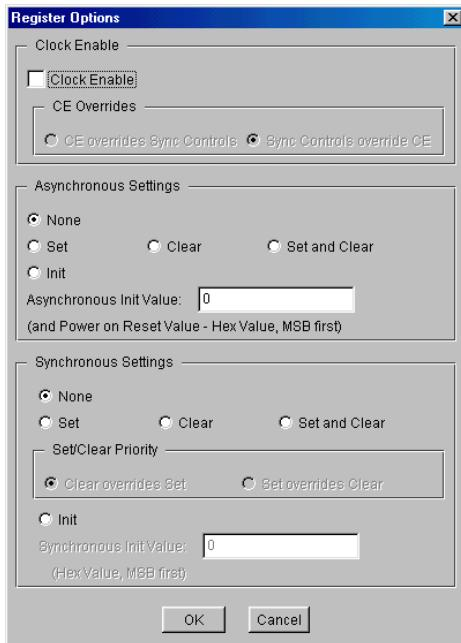

Figure 2: Adder/Subtractor Register Options Parameterization Screen
- Register Options:** This button is only enabled when a registered output has been requested via the **Output Options**. Clicking on this button brings up the Register Options parameterization screen (see Figure 2).
The Register Options parameterization screen for this module is shown in Figure 2. The parameters are as follows: